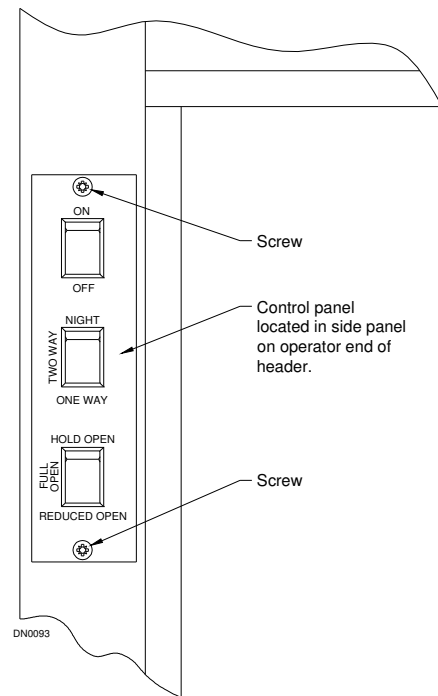

Figure 13
7. Remove switch assembly from jamb. Save screws for reinstallation (See Figure 13). Optional key switches with the same functions are available from customer service. See chart for a description of switch functions.
2. Remove Control Panel switch assembly from panel. Save screws for reinstallation (See Figure 13).
1. Remove Control Panel Switch Assembly from Fixed Panel (See Figure 13 Pg. 9). Save screws for reinstallation of panel.